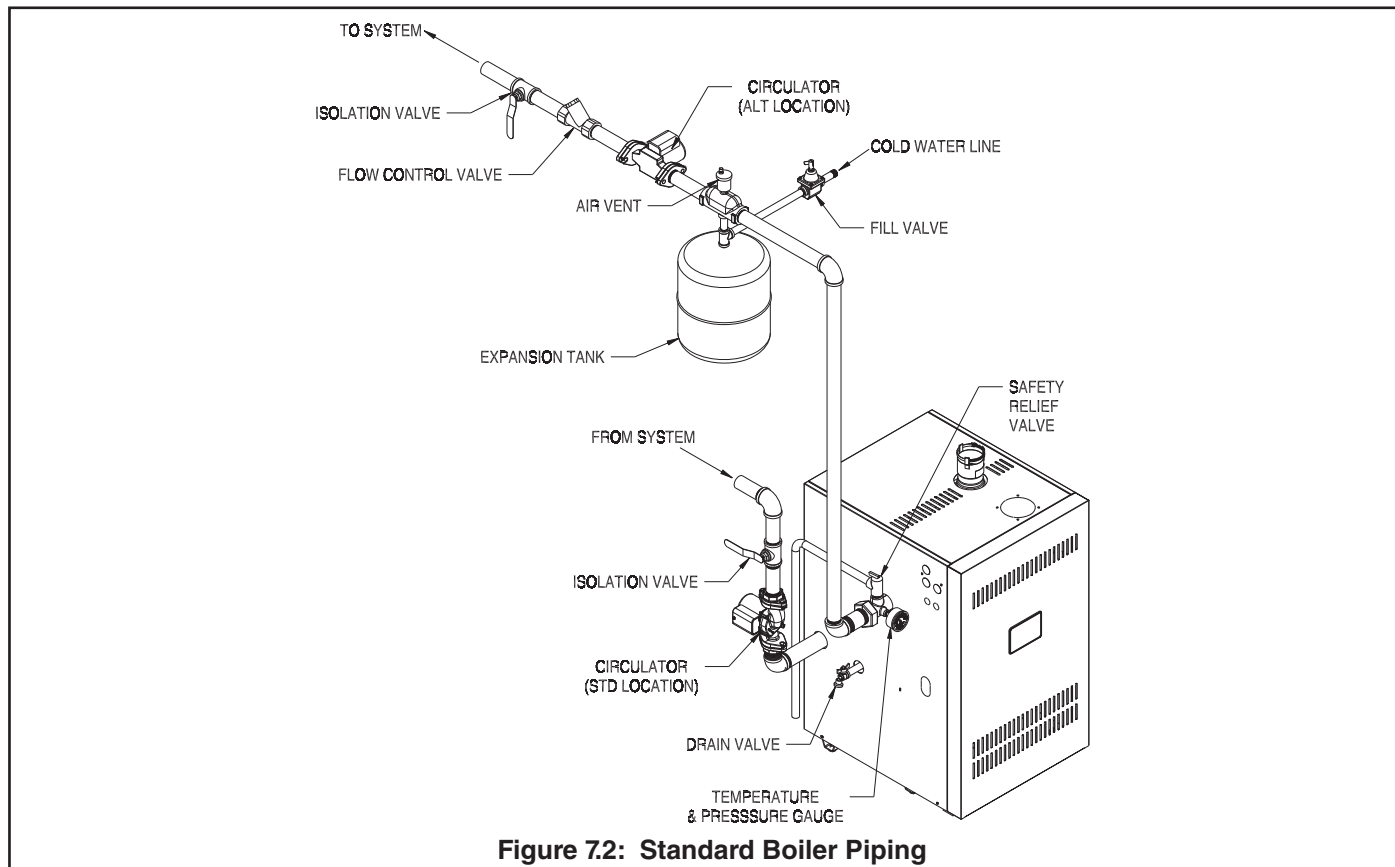

Figure 7.2: Standard Boiler Piping
Figure 7.2 shows typical boiler system connections on a single zone system. Additional information on hydronic system design may be found in the I=B=R Guide RHH published by the Air-Conditioning, Heating and Refrigeration Institute (AHRI). The components in this system and their purposes are as follows:
2. Circulator (Required) - The circulator is shipped loose with the boiler. If the circulator is mounted in the supply it should be positioned just downstream of the expansion tank as shown in Figure 7.2.